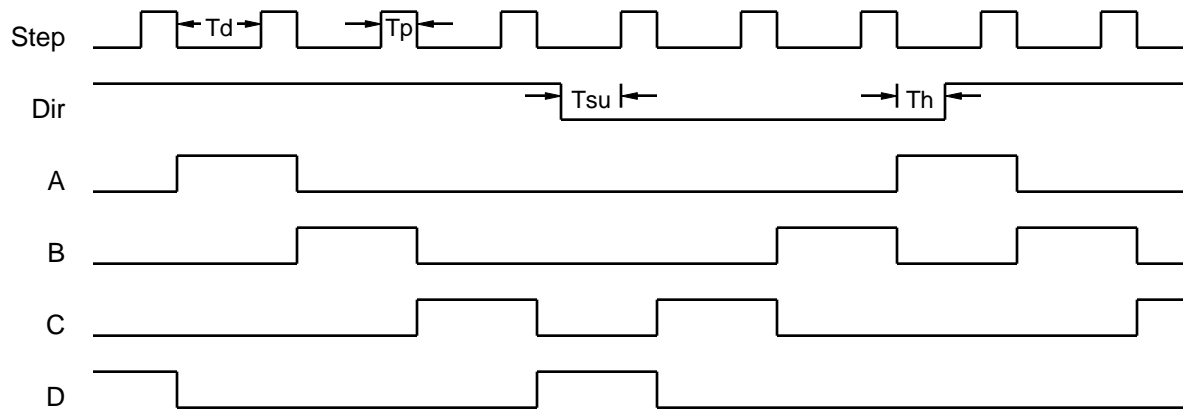

Figure 1. Circuit Timing
This pin determines the sequence that the outputs will be energized in. A high input on the Dir pin while the step input is pulsed will cause a single clockwise step, while a low level will cause a counter-clockwise step. (See Figure 1 on page 4)
4. Operation of the ELM311 is completely static, so there is no maximum time for any of these parameters. Each of the values is graphically displayed in Figure 1 on page 4.